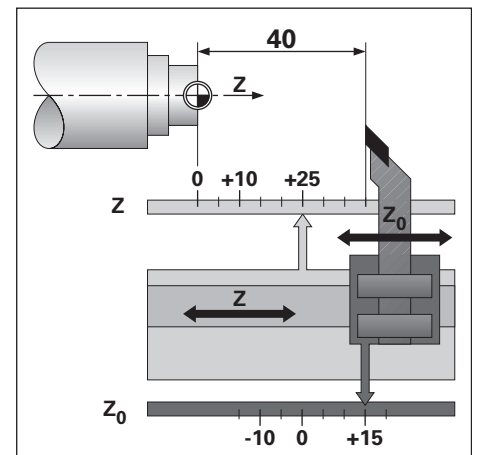

Fig. 17: Workpiece for separate value/sum display example
**Example:** Separate value (see Fig. 17):  $Z = +25.000$  mm
Sum display (see Fig. 17):  $Z_S = +40.000$  mm